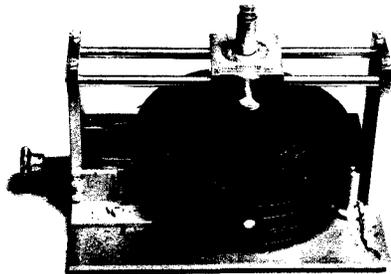
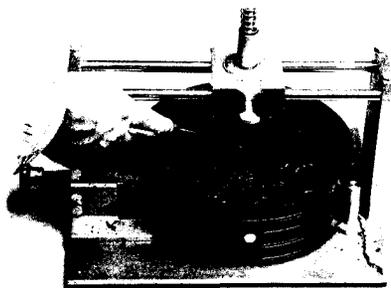

Figure 12 — Cutting Through Plastic Shell
Figure 13 — Removing Plastic Disc
6.08 Cut through black plastic of end plate until foam is just visible in ring. (Fig. 12) Use screwdriver to pop out plastic disc (not necessary for D, E blades). (Fig. 13) Continue cutting through foam and lower black plastic until stop collar on shaft bottoms on bearing block. Never bring blade back up through the end plate while it is still turning.